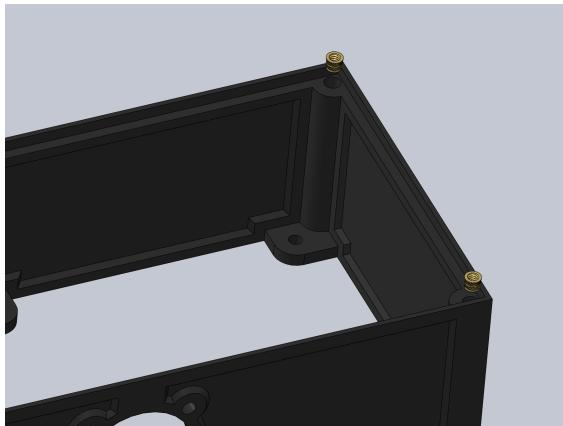

Figure 3: Back panel Inserts
- Inserting the Heat set inserts:** Insert the # 4-40 Heat Set Inserts **I1** into the 3D printed head (using a Solder Iron at 460 degrees F) in the locations shown in Figures 3 and 4. For more information